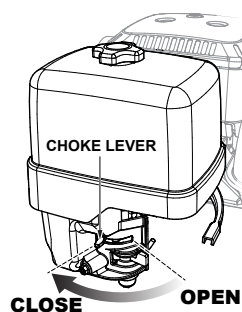

Figure 15. Choke Lever
2. To start a cold engine, move the choke lever (Figure 15) to the **CLOSED** position.